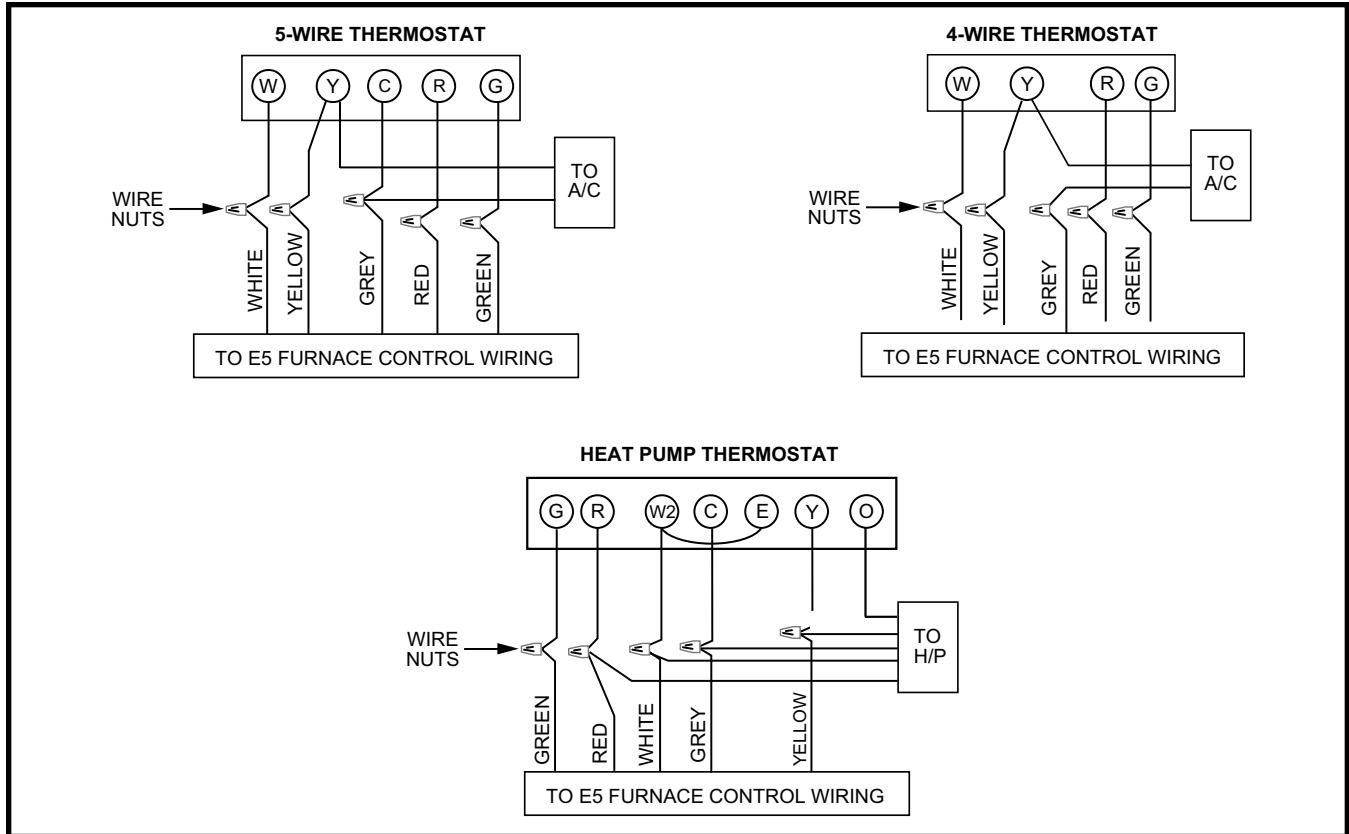

Figure 22. E5 Thermostat Connection
- The thermostat should be mounted about 5 feet above the floor on an inside wall. DO NOT install the thermostat on an outside wall or any other location where its operation may be adversely affected by radiant heat from fireplaces, sunlight, or lighting fixtures, and convective heat from warm air registers or electrical appliances. Refer to the thermostat manufacturer's instruction sheet for detailed mounting information. See Figure 22 (page 18) for typical thermostat connections.
NOTE: Installation of at least a four-wire thermostat circuit is required with five-wire circuit recommended for future addition of a heat/cool thermostat. Any unused thermostat leads must be properly capped. See Figure 22 \(page 18\) for various E5 thermostat connections.